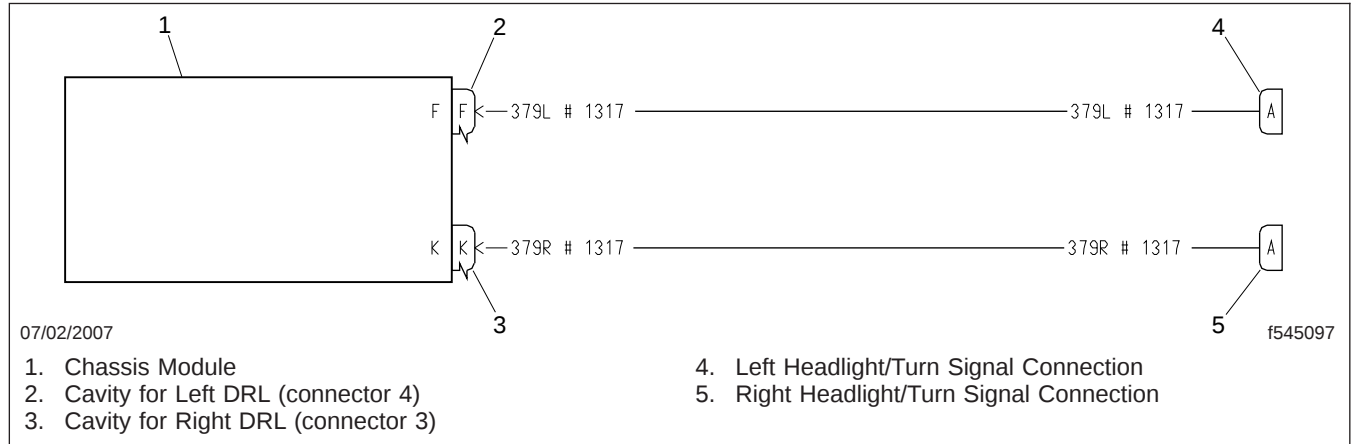

Fig. 1, Basic Wiring Diagram for DRL
7.1 Using "Chassis Module" icon, and "Configuration" screen, find the correct cavity locations in the CHM to connect the overlay harness. Locate circuits 379R and 379L. Note the connector and the pin locations. See Fig. 1. Typically, the connection for circuit 379R is in C3-K, and the connection for 379L is in C4-F.